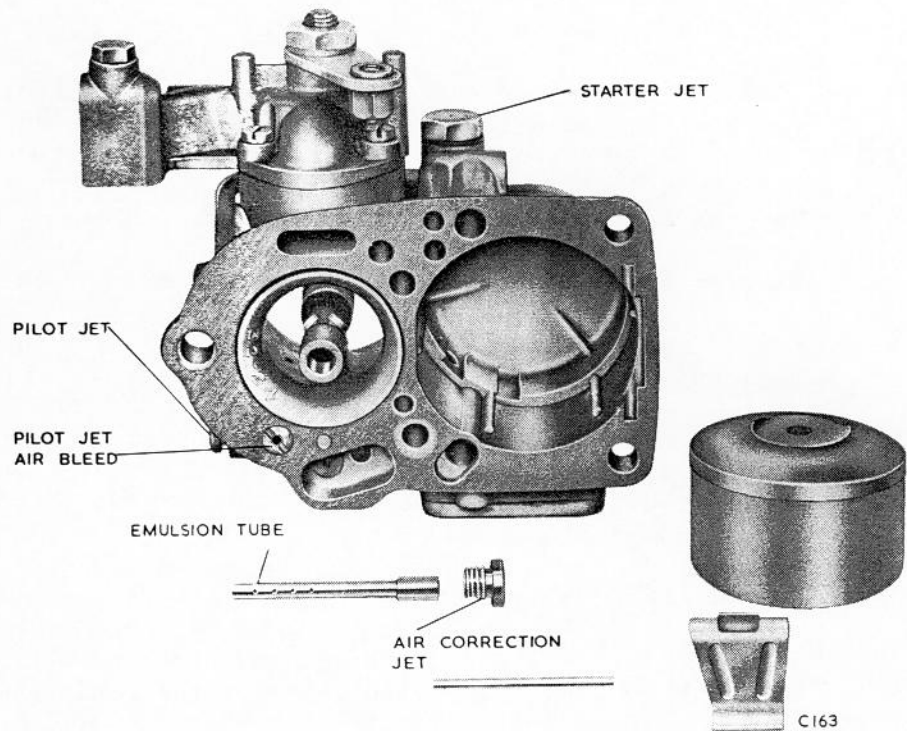

Fig.6 Float mechanism and emulsion tube.
3. Unscrew the air correction jet see Fig.6; if necessary, extract the emulsion tube beneath it by wedging a match-stick into the top; if it is too tight, invert the carburettor and tap gently.